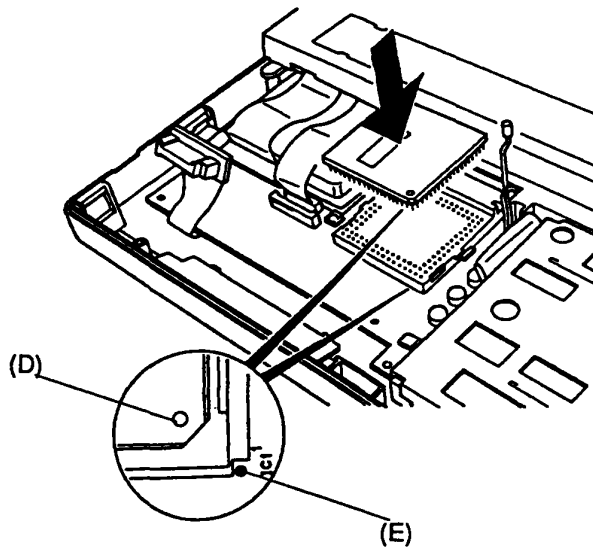

Figure 4-11 Installing the central processor unit
2. Correctly align the CPU with the CPU socket. The small circle (D) on the right front corner of the CPU and the small yellow circle (E) on the system board should face in the same direction. These circles indicate the correct positioning of Pin 1 on the CPU (Figure 4-11).